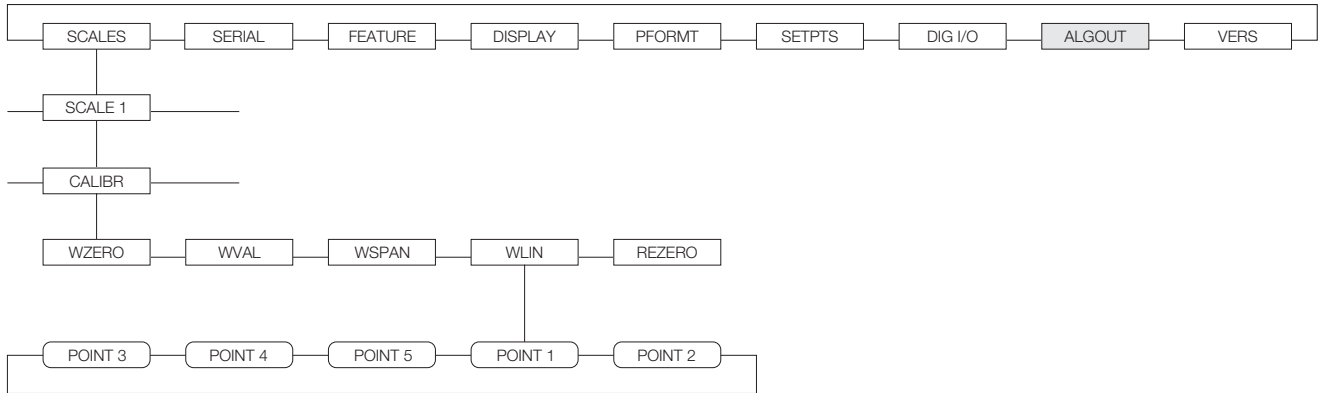
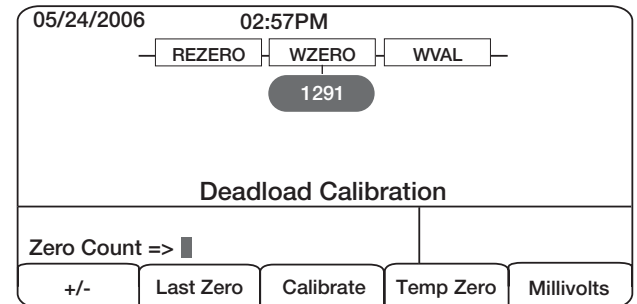

Figure 4-1. Calibration (CALIBR) Submenu
Figure 4-2. WZERO Calibration Display
The CALIBR submenu (under the SCALES menu, see Figure 4-2) is used to calibrate the 820i.
2. With the **SCALES** menu highlighted, press the **down** key, then select the scale to be calibrated. Press **down** again (**GRADS** parameter highlighted), then press **left** to highlight the **CALIBR** submenu (see Figure 4-1). Press **down** to go to zero calibration (**WZERO**). See Figure 4-2 on page 45.